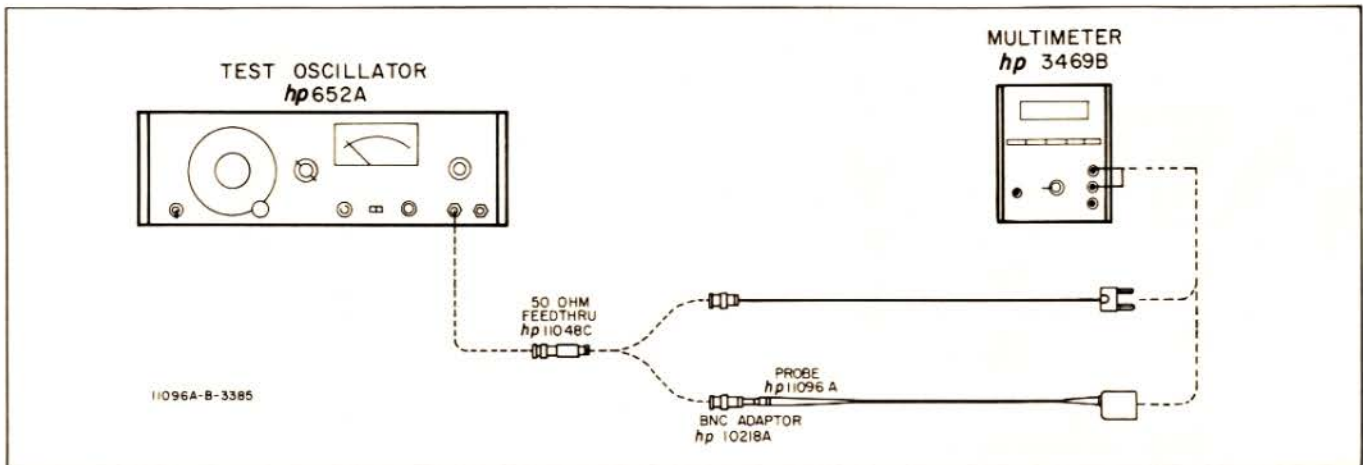

Figure 3. Low Frequency Response Check and Calibration
- Connect a cable between test oscillator and digital voltmeter as illustrated in Figure 3, connection "A".
- e. Disconnect connection "A"; set digital voltmeter function to measure dc, and connect the 11096A Probe to test oscillator output as illustrated in Figure 3.